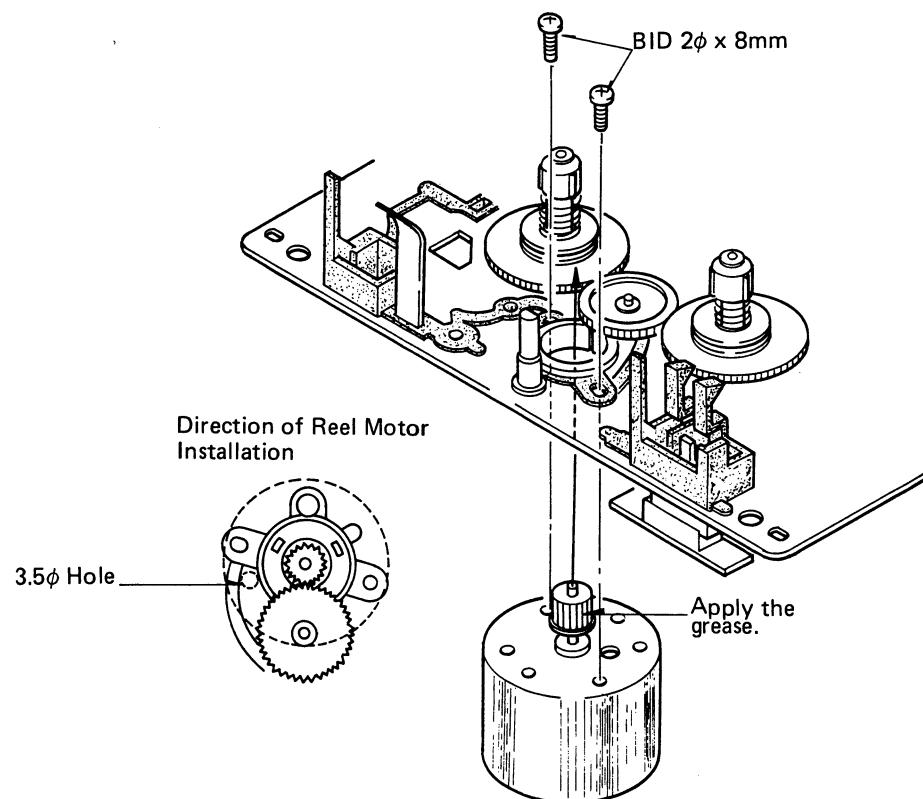

Figure 46
- When installing the new motor, be careful of the position of the marked hole (3.5φ) on the reel motor as shown in Figure 46.